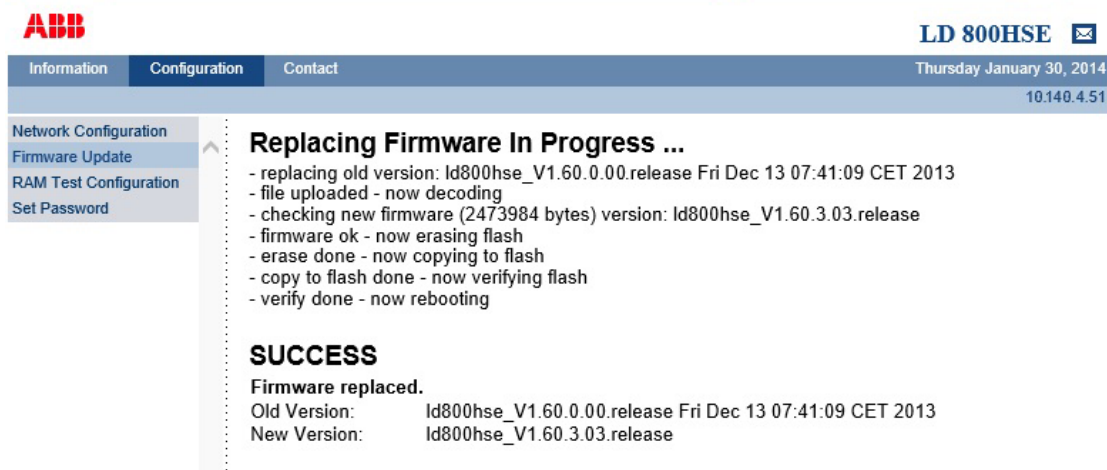

Figure 21. Window after successful firmware update
5. The successful completion of the update process is indicated by the message **SUCCESS**, see Figure 21.